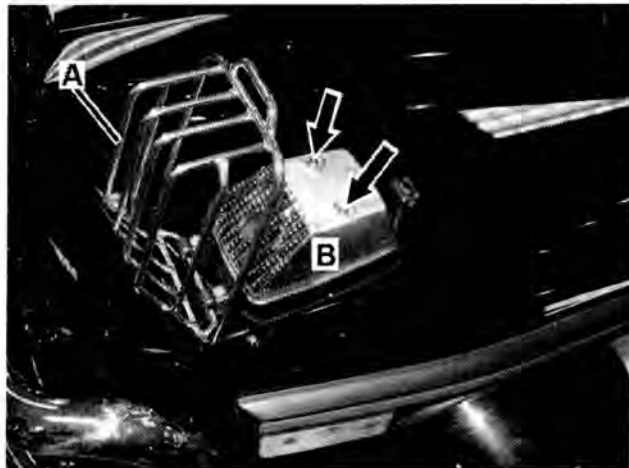

Figure 3
4. Replace front turn signal lenses (B, Figure 3):
- Open directional grill (A).
- Remove 2 screws (arrows) then remove lens (B).
- Install new lens (B) in reverse order.